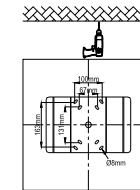

Figure 8
- II: 1. Drill the alignment holes on the top ceiling, make them match to the holes on mounting bracket. (Figure 8)